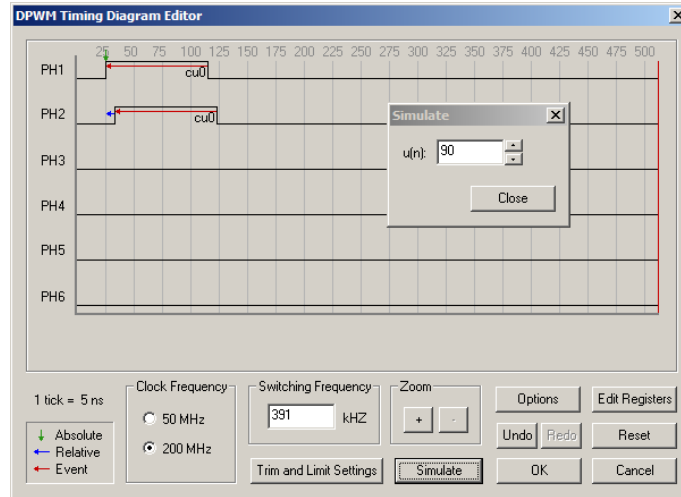

Figure 11. DPWM Timing Diagram Editor - Timing Simulator
3. Click the **Simulate** button to display the Simulate Window (see Figure 11). Use the arrows to increase and decrease the value of U(n). Notice that Phase 1's edge should modulate with its absolute edge starting at 25 ticks. Phase 2 should also modulate. However, its rising edge starts 8 time clicks (40 ns) relative to the Phase 1's rising edge.